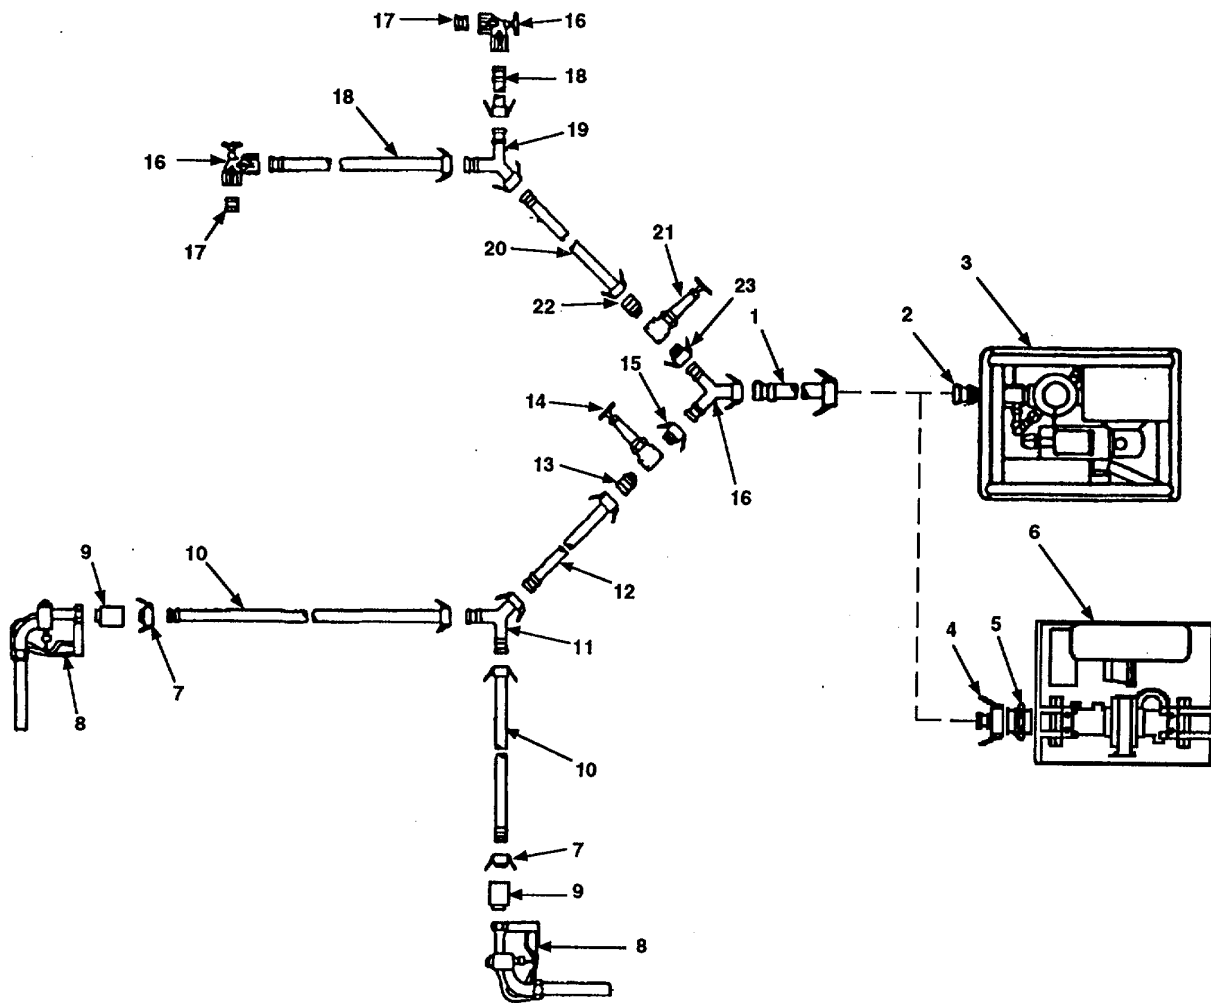

Figure 2-77. Disassembly of Distribution Point.
- i. Push cam arms on discharge hose assembly (Figure 2-77, 1) forward to open. Remove hose assembly (1) attached to male quick-disconnect coupling half (2) on hypochlorination unit (3) outlet port.
- j. Unscrew and remove male quick-disconnect coupling half (2) from hypochlorination unit (3) outlet port.
- k. Push cam arms on hose assembly (1) forward to open. Remove hose assembly (1) attached to reducer (4).
- l. Push cam arms on reducer (4) forward to open. Remove reducer (4) from male coupling half (5).
- m. Remove male coupling half (5) from hypochlorination unit (6).
- r. Push cam arms of two reducers (Figure 2-77, 7) forward to open. Remove two nozzles (8) with attached hose swivels (9) and reducers (7) from ends of hose assemblies (10).
- s. Unscrew and remove two reducers (7) from ends of hose swivels (9).
- t. Unscrew and remove two hose swivels (9) from ends of nozzles (8).
- u. Push cam arms on hose assemblies (10) forward to open. Remove hose assemblies (10) from end of Y-connection (11).
- v. Push cam arms on Y-connection (11) forward to open. Remove Y-connection (11) from end of hose assembly (12).
- w. Push cam arms on discharge hose (12) forward to open. Remove hose from male quick-disconnect coupling half (13) attached to 2 inch gate valve (14).
- x. Push cam arms on female quick-disconnect coupling half (15) forward to open. Remove 2 inch gate valve (14) with attached male quick-disconnect coupling half (13) and female quick-disconnect coupling half (15) from end of Y- connection (16).
- y. Remove male quick-disconnect (13) and female quick-disconnect (15) coupling halves from ends of 2 inch gate valve (14).
- z. Push both sets of cam arms on elbow valves (16) forward to open. Remove two dust plugs (17) from ends of elbow valves (16).
- aa. Remove elbow valves (16) from ends of two hose assemblies (18).
- ab. Repeat steps u through y to disconnect hose assemblies (18), Y-connection (19), hose assembly (20), 2 inch gate valve (21), male quick-disconnect (22) and female quick-disconnect (23) coupling halves.